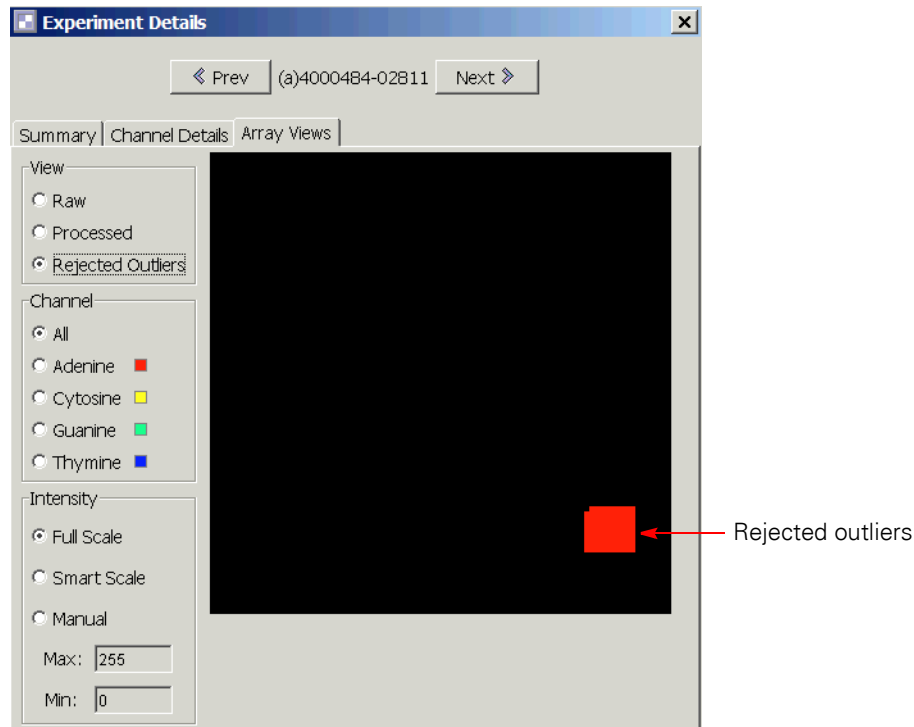

Figure 4.11 Arrays Views Tab – Rejected Outliers
- **Rejected Outliers:** features with unreliable measurements. In this view, colored features are rejected outliers; black features are not outliers and are genotyped (Figure 4.11).